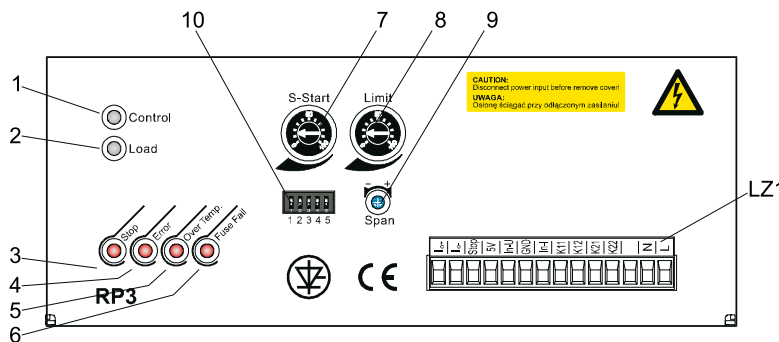

Fig. 3. Panel.
Following Servicing elements are disposed on the power controller frontal plate (Fig.3).
- a) to LZ1 terminal strips (fig.3) - wires with cross-section from 0.35 up to 2.5 mm²,
The power controller supply (Gate triggering system - **UWB**) must be connected to **L1** and **N** terminals of the **LZ1** strip (fig.3.).